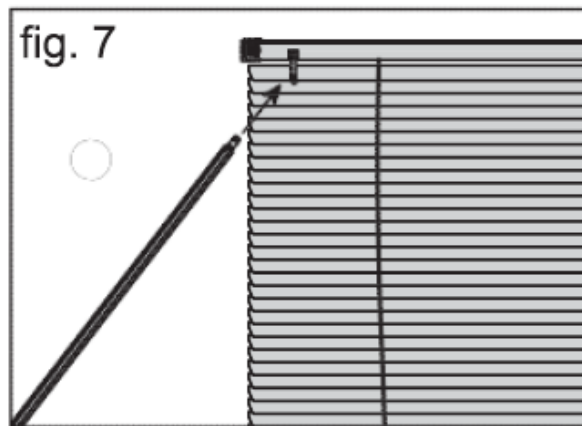

fig. 7
5. Affix the Wand (B) onto the Blind (A). See figure 7.